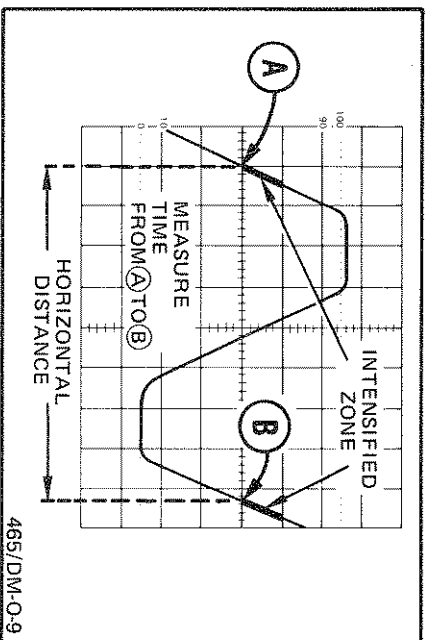

Figure 23. Time duration using delayed sweep.
the intersection of the signal and the center horizontal graticule line (see Figure 23, Point A).
8. Adjust the B DELAY TIME POSITION control to move the start of the intensified zone to the second time-measurement point (see Figure 23, Point B).